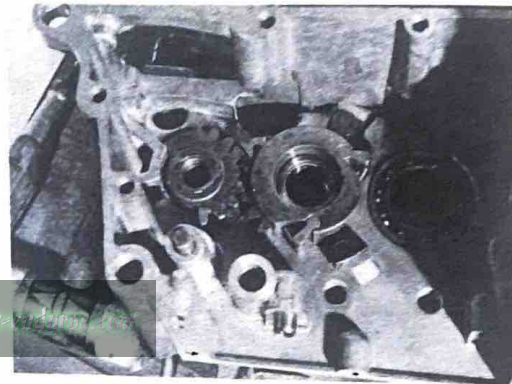

Fig. 4-15-4
- 2) Engage the kick pinion with the kick gear. (Fig. 4-15-4)